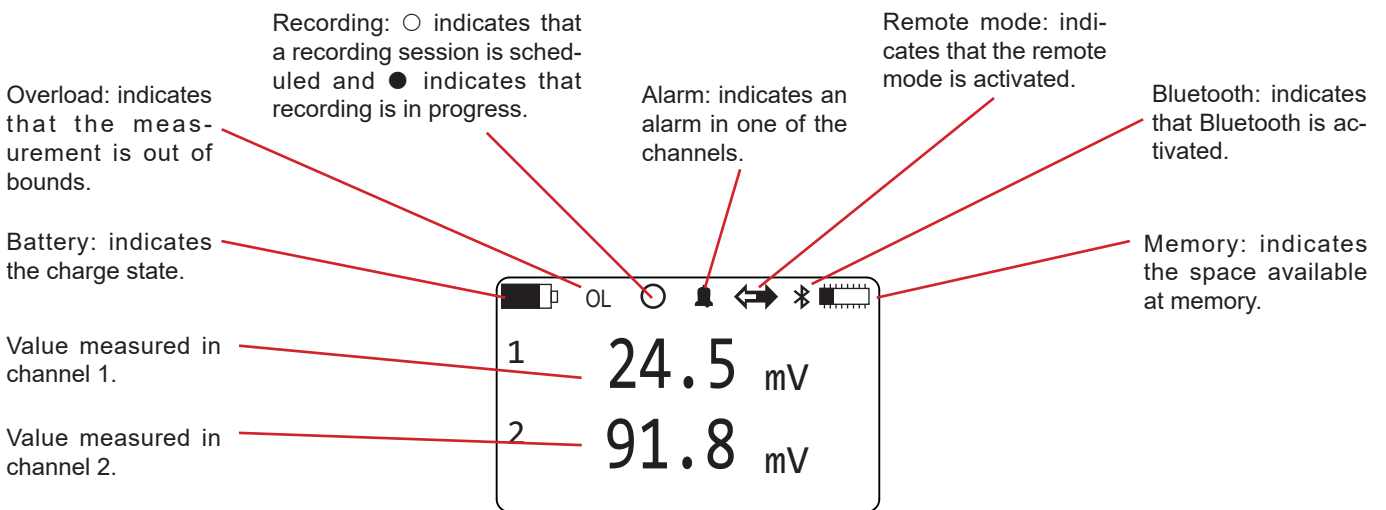

Figure 7
- Switch the instrument on by pressing the On/Off Ⓞ key and keeping it pressed until the display unit indicates **POWER ON**. The **Measurement data** screen (see Figure 7) is displayed.
From the **Measurement data** screen (see Figure 7), press \blacktriangleright twice.